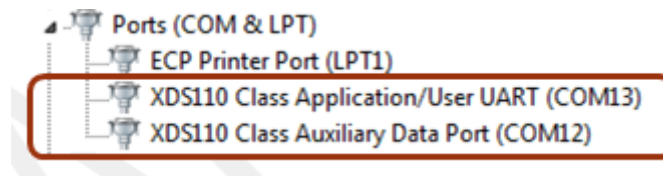

Figure 15. Enumerated XDS Ports for MSP-EXP432P401R LaunchPad™
1. Connect the MSP-EXP432P401R LaunchPad to the PC with a micro USB cable. Windows should search for the driver automatically. To verify that the driver is properly installed, open the Device Manager on the PC, and then navigate to *Ports*. Two enumerated XDS110 ports, as shown in Figure 15, indicate if the driver was installed properly during CCS installation.